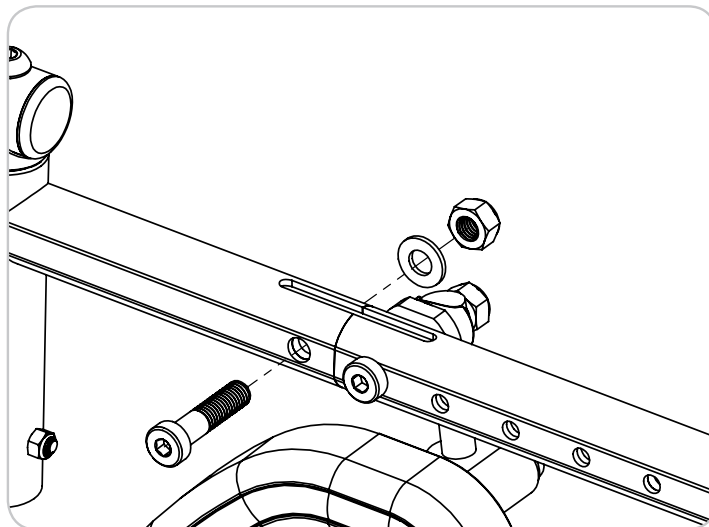

Figure 19
3. Using a 5mm hex wrench and a 13mm wrench, remove bolt and nut. Reference Figure 19.